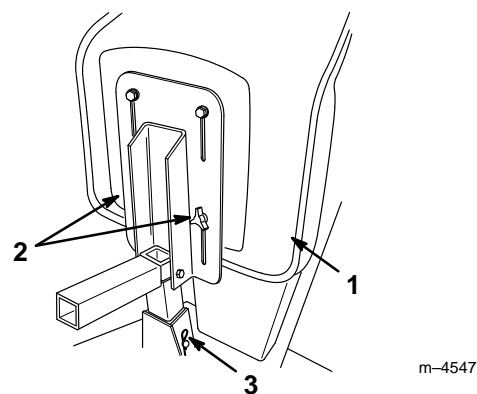

Figure 12
3. Loosen the knobs on the bottom of the seat (Fig. 12) and slide the seat forward or back as needed.
4. To adjust the seat height, remove the hairpin cotter and pin from the seat stand (Fig. 12) and raise or lower the seat as required.